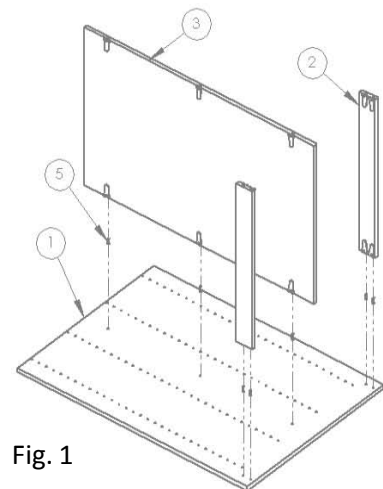

Fig. 1
2. Install Back Panel (#3) and Cleats (#2) as shown, Tightening Cams (Fig. 1).